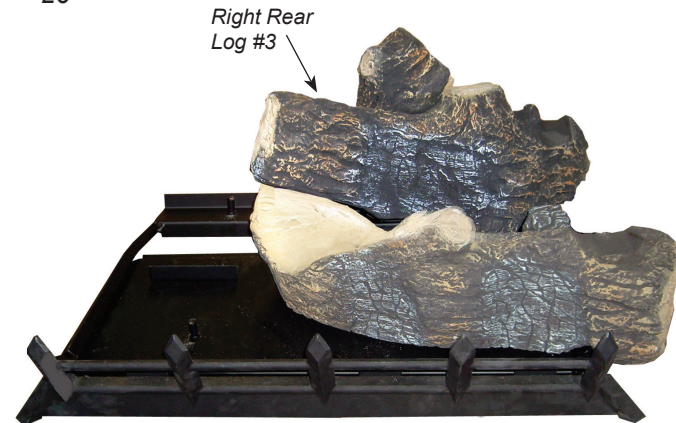

Figure 26. Place Right Rear Log #3
3. Place right rear log (#3) on pin located on rear support bracket and rest left side of log on front right log. *Figure 26*